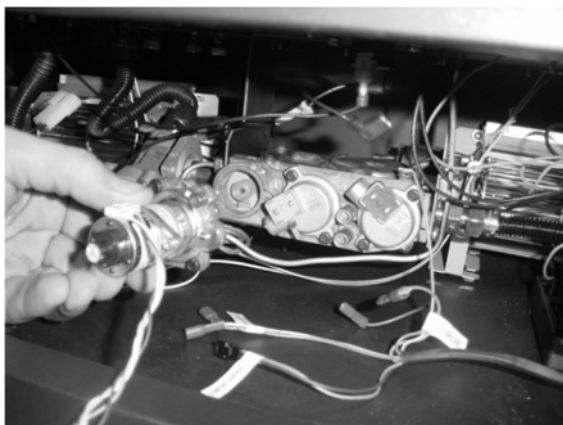

Figure 1
- (b) Remove and discard the Natural Gas (NG) orifice. Place the LP orifice in the pilot assembly then replace the pilot hood, tightening the pilot hood until it is snug (do not over-tighten).
2. Remove the control panel to access the gas control panel. The stepper motor (adjustable regulator) has an installation sheet included with it – make sure to follow all of the directions. Place the stepper motor on the gas control valve (see Figure 1) – **MAKE SURE IT IS CORRECTLY ORIENTED**. Secure using the screws included with the motor (see Figure 2) – tighten to 25 Lb-inches. Leak test this area after installation to verify proper installation.